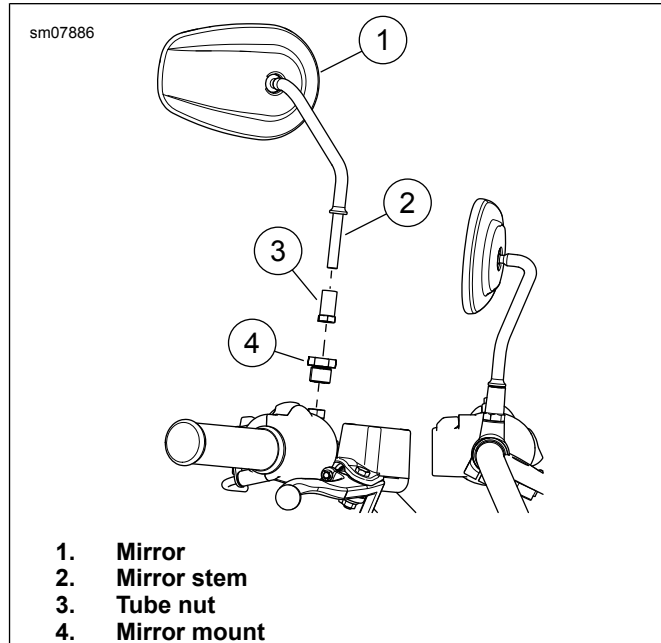

Figure 3. Mirror
1. See Figure 3. Remove mirror.
- a. Remove tube nut (3).
- b. Remove mirror (1).
- c. Remove mirror mount (4).